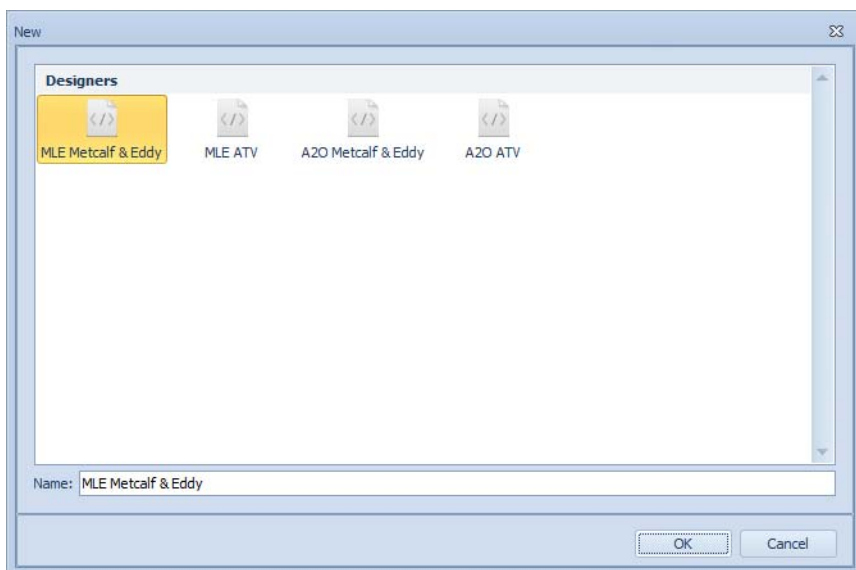

Figure 9.1 Create New design experiment
- In the Application menu, choose “New” and select one of the available templates (Figure 9.1):